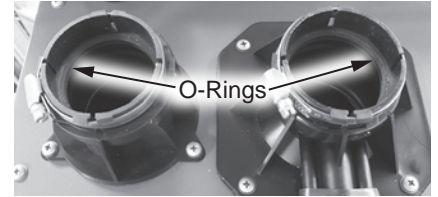

Figure 210 - O-ring locations
**7** Locate the new clamps provided in the kit. Place a new clamp over the intake air port and the exhaust port. Note the orientation of the clamps. See Figure 210.
**9** Reinstall the two (2) screws removed in **Step 3**.